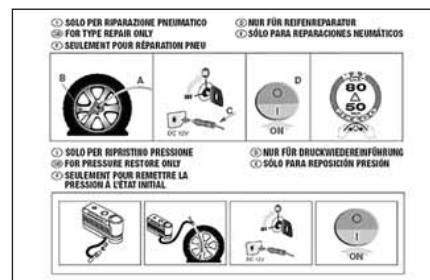

fig. 12
- instruction brochure (see **fig. 12**), to be used for prompt and proper use of the quick repair kit and to be then handed to the personnel charged with handling the treated tyre;